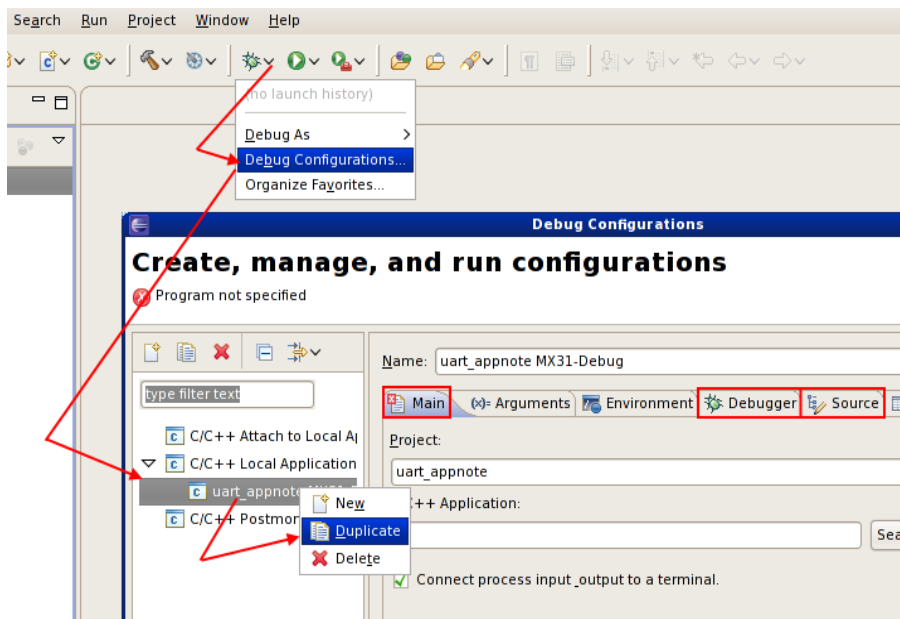

Figure 6. Creating a Debug Configuration
1. Click the downward arrow on the right of the bug icon to open the Debug Configurations window. Double click the C/C++ Local Application option to show a debug configuration for the project. Right click on this configuration and select Duplicate as shown in Figure 6.